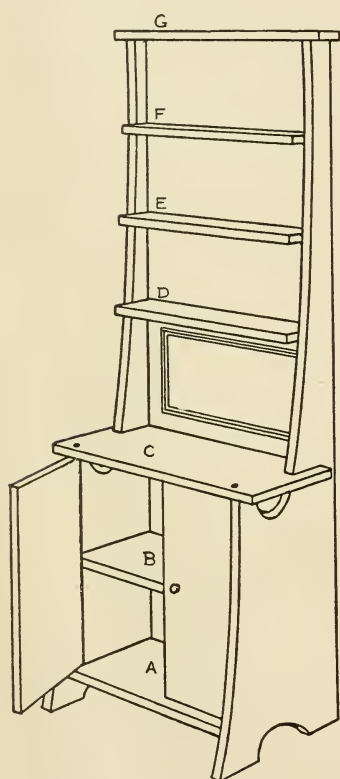

FIG. 132. — A Side-board.
**A Side-board** similar to Fig. 132 should be made for the dining-room. The pattern for the side pieces is shown in Fig. 122. After sawing these out, cut a piece seven inches long by three inches wide for the back and fasten the side-pieces to the edges of it. The location of the shelves can be obtained best by referring to Fig. 132 and the pattern in Fig. 122. Cut the bottom shelf (*A* in Fig. 132) three inches long by an inch and one-quarter wide and fasten it to the side-pieces
The lower portion of the side-board is enclosed with two doors two inches high by an inch and one-half wide. Small pieces of cloth may be used for hinges, but it is better to use pins, running them through the shelf above and below (*A* and *C*, Fig. 132) into the doors. Stick